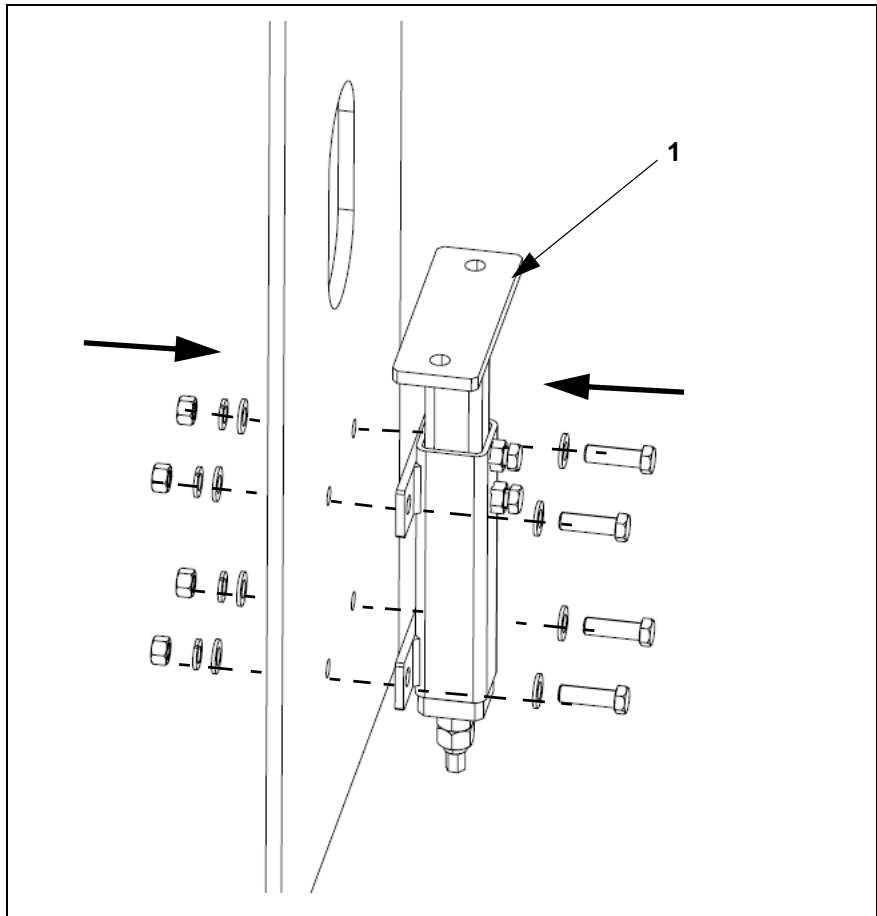
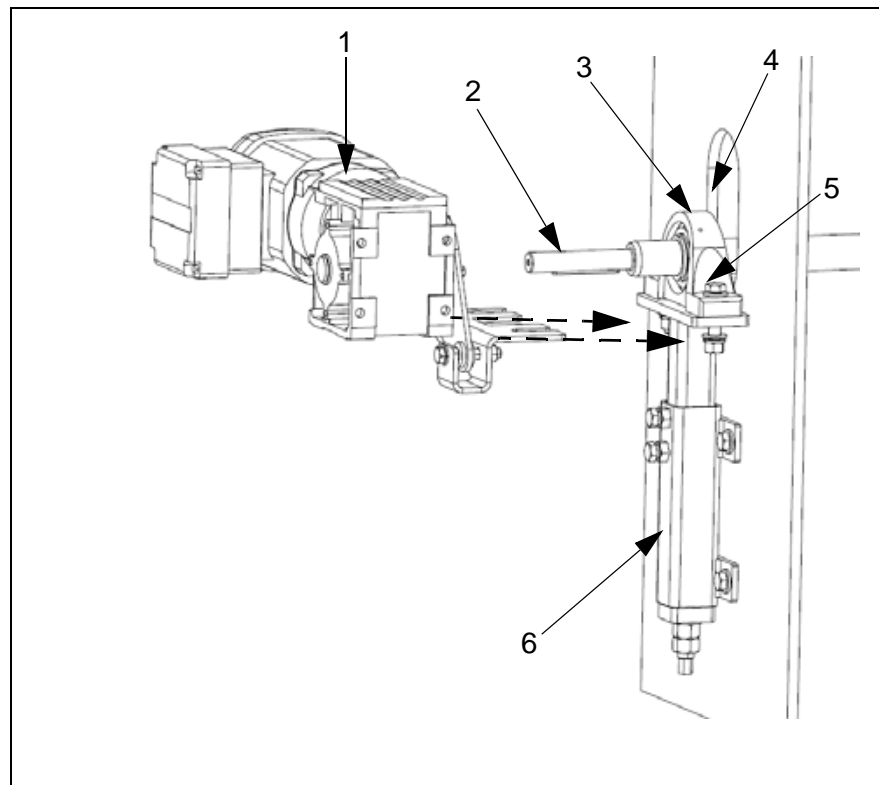

Fig. 2:
Fig. 3:
2. Mark the vertical and horizontal centre line of the driving drum on the operator side of the chute wall to determine the centre point (B, Fig. 2) of the driving drum. Extend the vertical centreline to determine the point C.
3. Mark a position (F, Fig. 2) at a distance from 50 to no more than 200 mm in the conveying direction (A, Fig. 2) from the point at which the belt leaves the head pulley (C, Fig. 2).
4. Draw a vertical line at this position (F, Fig. 2) going downwards at a right angle to the conveyor belt.
5. Use the dimensions from Figure 2 to mark the installation holes for the tensioner.
6. Create the slot-shaped cut-out and installation holes as shown in Figure 2.
1. Attach the tensioner (1, Fig. 3) to the chute wall using the installation holes shown in Fig. 2